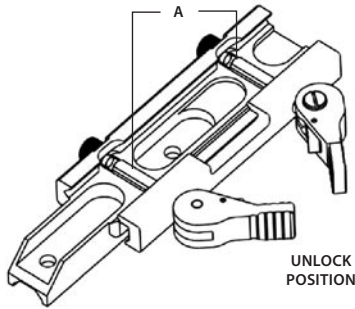

FIGURE 3-6. CO-LR MOUNT. UNDERSIDE VIEW
4. Install the CO-LR on the Picatinny/ Weaver rail in front of the day scope so that the stops (A, see Figure 3-6) slide into the transverse slots on the rail. The light suppressor should cover the day scope's objective lens.